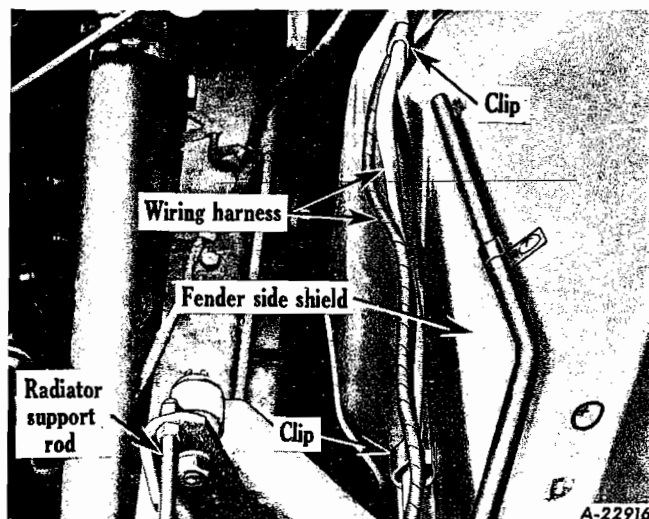

Fig. 61
5. Pull head lamp wiring harness towards the rear through fender splash panel and remove all harnesses from the three clips located on fender side shield (Fig. 61).